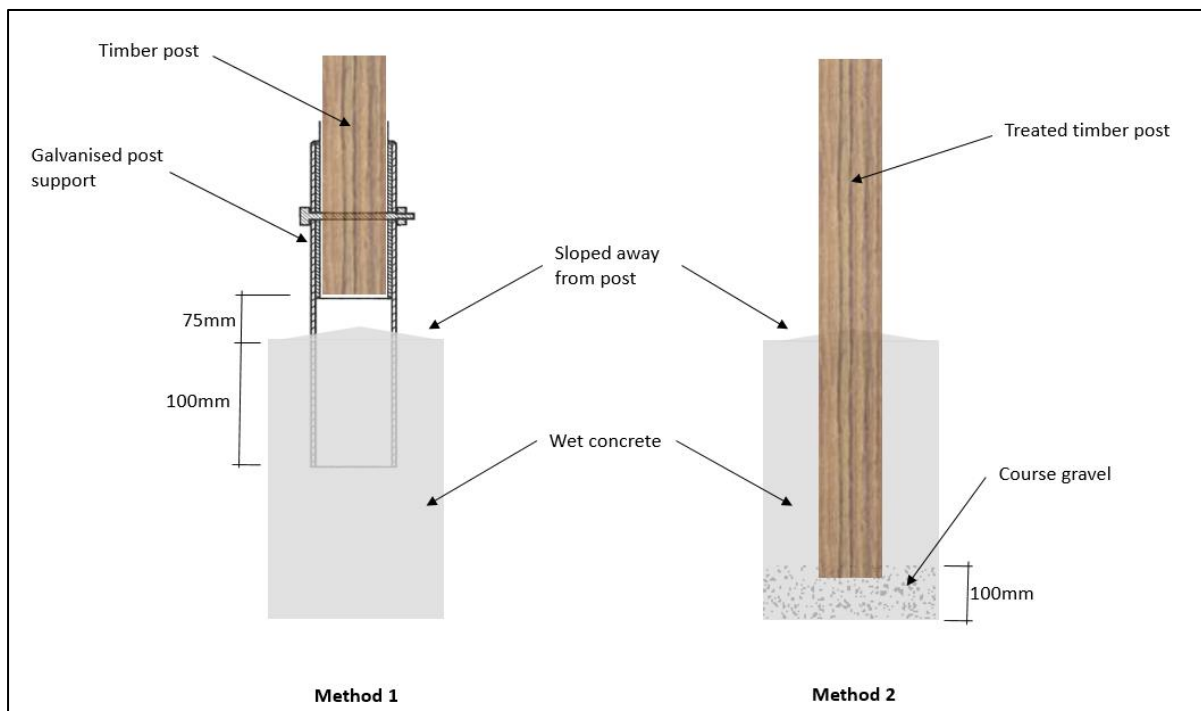

Figure 1: Two different methods of casting concrete footings. Note: figures not drawn to scale.
1. **Method 1: Embed a VueTrade™ Post Support into wet concrete.** A 75mm minimum clearance between the post to the base support is required by the Building Codes of Australia (BCA) and Australian Standards, illustrated in Figure 1 and the stirrup needs to extend to at least 100mm into the wet concrete to be able to achieve its respective design capacities. The 75mm clearance acts as a termite inspection zone for local building authorities and also to increase the lifespan of the post. Most common error occurs when the galvanised post stirrups are embedded into the concrete without clearance from the base which causes the timber posts to be in direct contact with the concrete. Concrete absorbs moisture, keeping the posts moist. This can potentially cause premature rotting in the timber post which results in a decreased performance its structural integrity. A list of VueTrade™ products are tabulated in Table 1.
2. **Method 2: Embed the post into the concrete footing.** To do so, BCA states that the holes for the embedded posts is filled with 100mm depth of coarse gravel before backfilling with concrete, shown in Figure 1. **However, this method is not recommended as only specific species of timber are allowed to be embedded into wet concrete.**